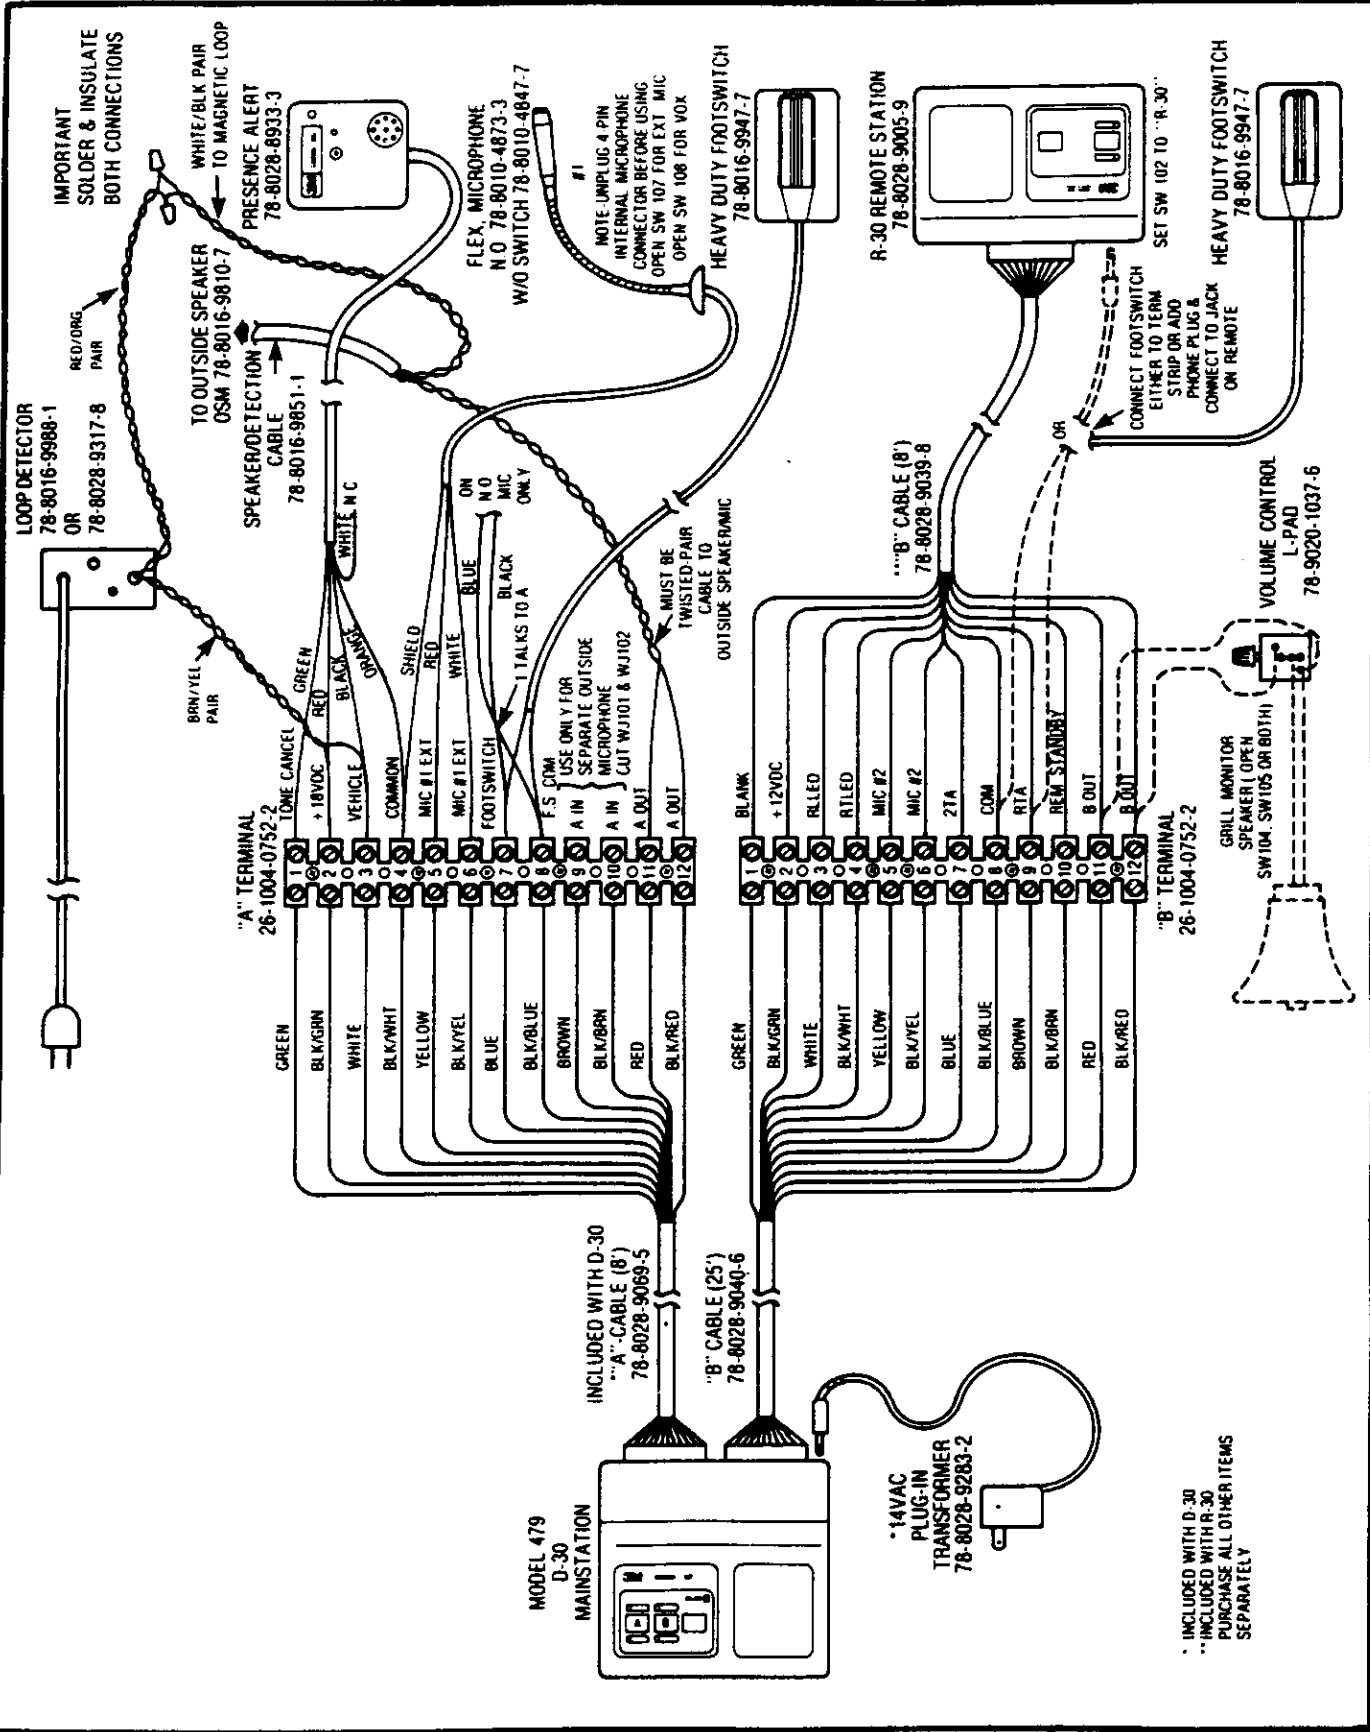

Figure 6. Typical D-30/R-30/Magnetic Loop Connections
We recommend that you use a second 12-terminal strip (26-1004-0752-2) to connect the two plug-in cables together as shown in figures 6 - 8. To connect the R-30 to the Main using the terminal strip:
- b. Attach the connector clamp to the rear of the R-30 per figure 6.
- d. Connect the 12 color-coded cable wires to the terminals per the decal and figures 6 - 8. Firmly tighten each screw.
- f. Connect these 12 color-coded cable wires to the same terminals per the decal and figures 6 - 8. Firmly tighten each screw.